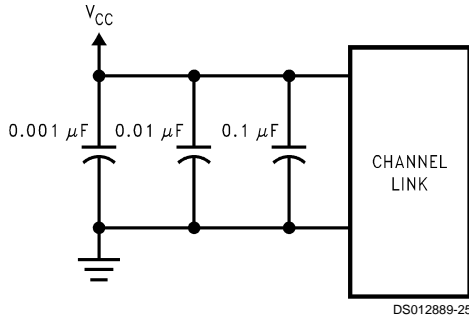

FIGURE 19. CHANNEL LINK Decoupling Configuration
**DECOUPLING CAPACITORS:** Bypassing capacitors are needed to reduce the impact of switching noise which could limit performance. For a conservative approach three parallel-connected decoupling capacitors (Multi-Layered Ceramic type in surface mount form factor) between each  $V_{CC}$  and the ground plane(s) are recommended. The three capacitor values are  $0.1\ \mu\text{F}$ ,  $0.01\ \mu\text{F}$  and  $0.001\ \mu\text{F}$ . An example is shown in *Figure 19*. The designer should employ wide traces for power and ground and ensure each capacitor has its own via to the ground plane. If board space is limiting the number of bypass capacitors, the PLL  $V_{CC}$  should receive the most filtering/bypassing. Next would be the LVDS  $V_{CC}$  pins and finally the logic  $V_{CC}$  pins.